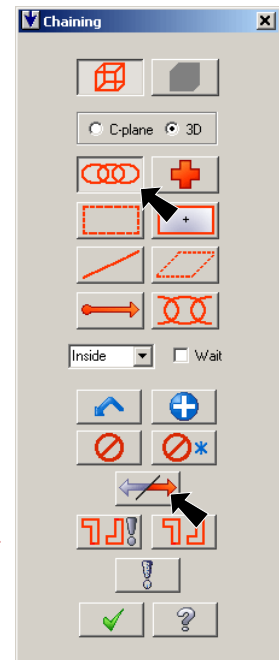

Fig. 17
Step 2. Select **Chain** (C) in Chaining dialog box, **Fig. 17**.